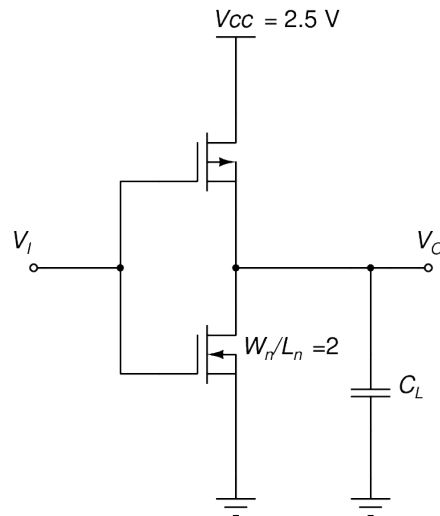

Fig. 3
- (c) A CMOS inverter is shown in Fig. 3. It is operated at a supply voltage of 2.5 V and is manufactured in a  $0.25 \mu\text{m}$  process technology with the following parameters: